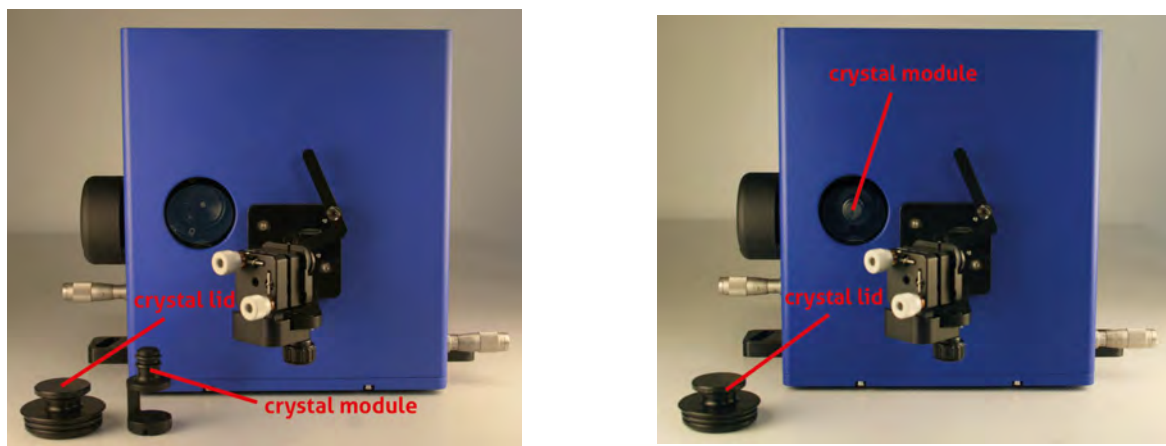

Figure 3.7.: Optical Head and crystal module (left - removed; right - installed)
3. Open crystal lid (pull) (see Figure 3.7).